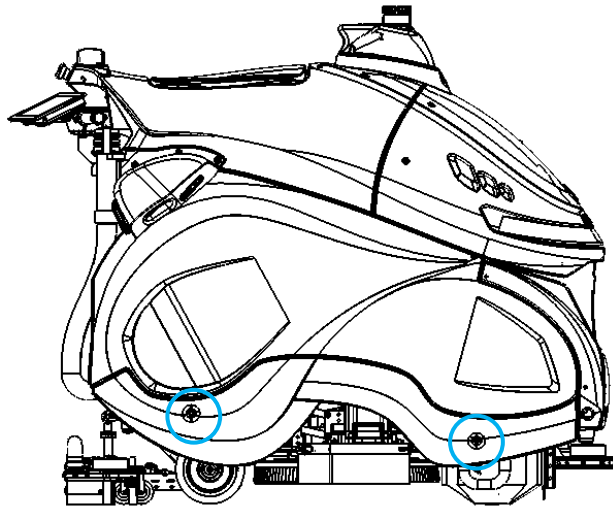

Fig. 1
1. Remove right side panel on the rex by turning two knobs shown in (Fig. 1) anti-clockwise.